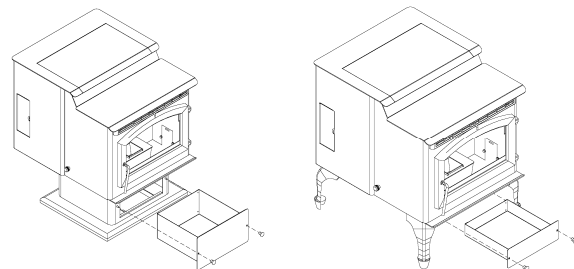

FIGURE 27
- Periodically remove and empty ash bin (see Figure 27) by unscrewing the two knobs on the front of the pedestal below the ash lip. Dispose of ashes properly. (See “**ASH REMOVAL**” above)